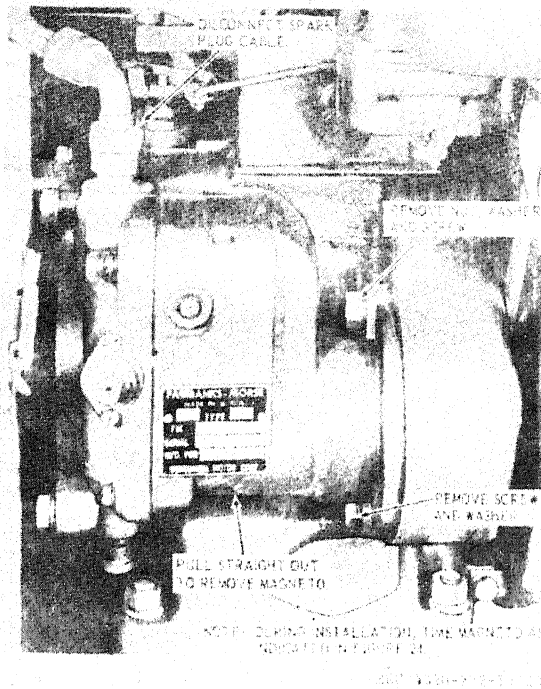

Figure 23. Magneto, removal and installation.
b. *Removal.* Refer to figure 23 and remove the magneto.
(1) Clean all parts with a cloth dampened with an approved cleaning solvent; dry thoroughly. Prevent the entry of solvent into the inside of the magneto.
(2) Inspect the magneto for a cracked or damaged case, dents, worn threads, or other visible damage. Turn the magneto shaft by hand and check for binding and scraping of the shaft. Replace a damaged magneto.
(3) Replace mounting hardware that is missing or damaged.
e. *Installation.* Refer to figures 23 and 24 and install and time magneto. Take care to follow timing instructions given in figure 23. The engine cannot run if the magneto is not properly timed.